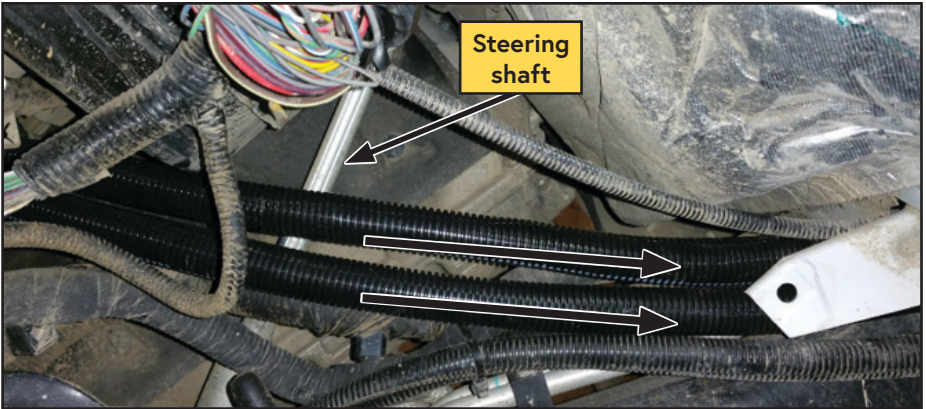

Figure 34 — Hose routing
- Route the discharge hose assembly, the oil return hose and the 1/4 in PTFE scavenge tube down the inner fender to the outside of the frame rail, between the body and the body mount, toward the rear of the vehicle. Ensure the hose bundle is clear of the steering shaft (Figure 34).